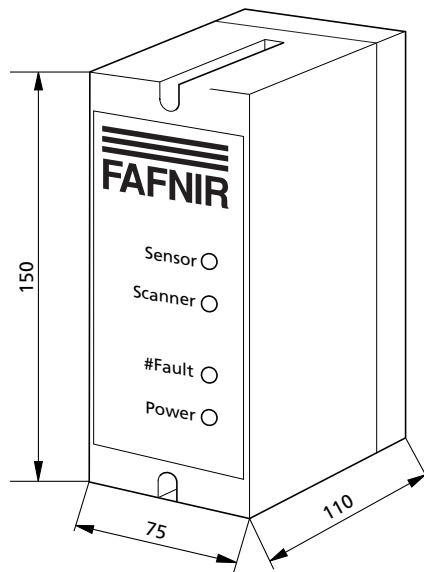

Fig. 3a: Measuring transducer type LS 500
There are three basic versions of measuring transducers available (type LS 500 / LS 500 19" / LS 500 19" Duo) (see figs. 3a and 3b). Types LS 500 and LS 500 19" are also available with additional alarm (S). An alarm is no longer possible if two potential-free change-over contacts are available for alarm signalling (Z). Type LS 500 19" AK5 can only be supplied in 24 V (AC/DC) whereas all the other types can be supplied with 24 V, 110 V, 230 V, 40...60 Hz and 24 V:
| LS 500 LS 500 S LS 500 Z | Fig. 3a |